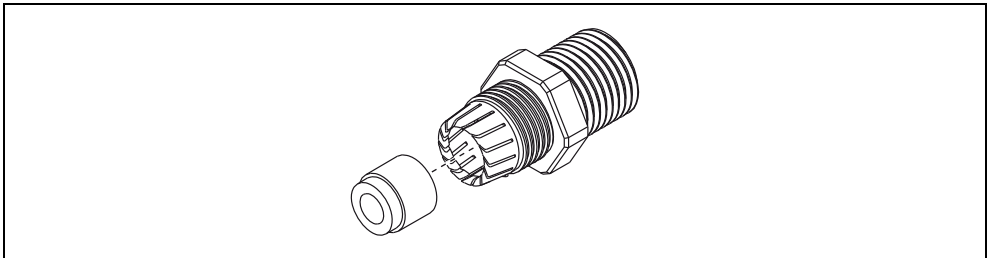

Figure 4. Assembling Insert into Gland Shell
1. Assemble the selected inserts into the gland shell as shown in Figure 4.